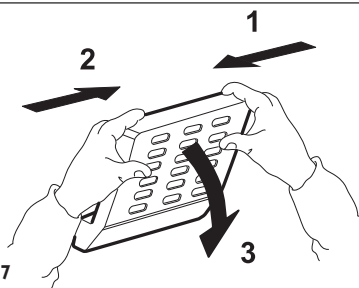

Fig. 7
- Remove the diffuser by following the sequence of steps shown in the **figure 7**.